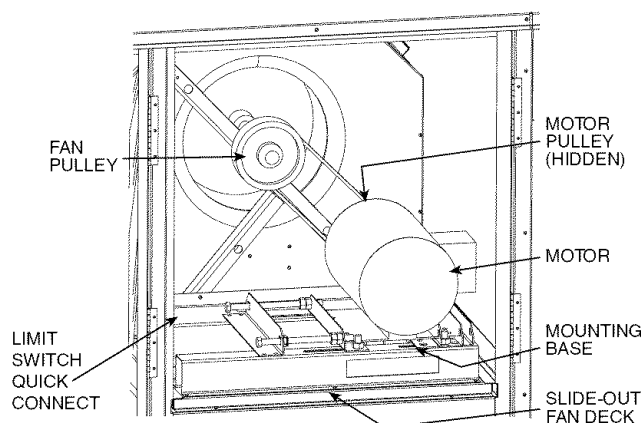

Fig. 33 — Evaporator-Fan Motor Adjustment
3. Remove three no. 10 screws at front of slide-out fan deck. Save screws. See Fig. 33.
Evaporator Fan Performance Adjustment (Fig. 33 and 34) — Fan motor pulleys are factory set for speed shown in Table 27.
4. Move motor mounting plate to adjust to proper belt tension. See Table 30. Motor adjuster bolts may be used to tighten belts. See Fig. 33.